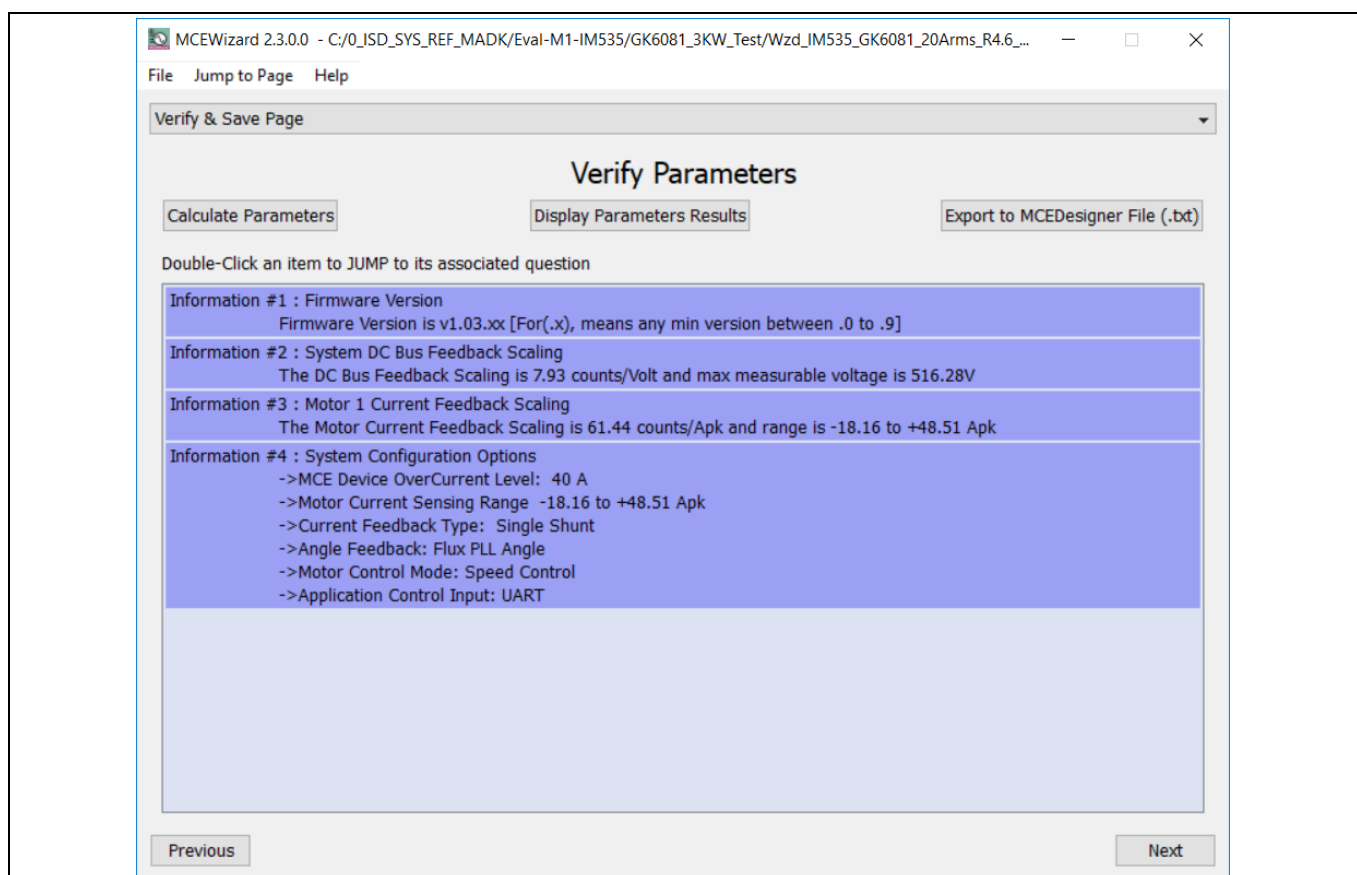

Figure 6 MCEWizard Verify and Save page
4. After system and operating parameters are set, go to the "Verify & Save Page" and click on "Calculate Parameters" button. If no errors are reported, then save the drive parameter set into your project directory by clicking "Export to MCEDesigner file (.txt)" (Figure 6); if an error is detected, double-click on the error message (highlighted in **RED**) and adjust the related parameter. The saved drive system parameter file will be later used by the MCEDesigner in step 9.